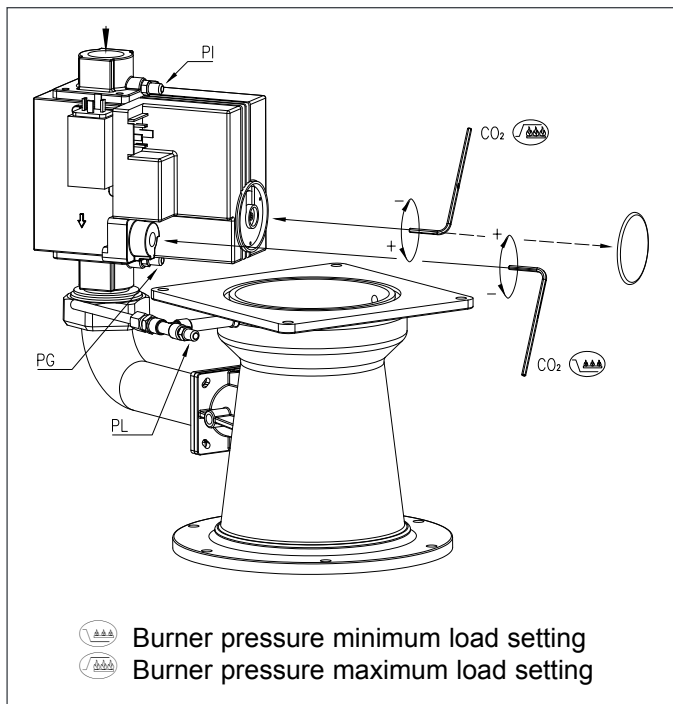
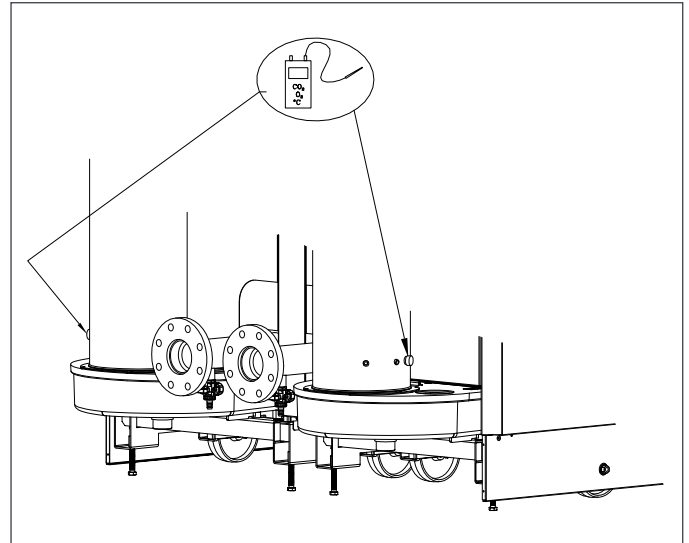

fig. 22 Gas valve multiblock adjustment points
fig. 23 Flue gas measuring point
11. Check the inlet gas pressure PI (see fig. 22).
- 17.a Check and correct, if necessary, the boiler module for correct gas/air ratio set-up. Checking takes place on full and part load, adjustment takes place only on the gas valve multiblock. For checking and adjusting are required: an electronic CO2-gauge (on the basis of O2) and a gas pressure gauge. Note that the opening (see fig. 23) around the measuring probe is sealed properly during measurement. Note also that measuring the O2 levels in the flue gas is necessary, because direct measurement of CO2 can lead to inaccuracies due to varying CO2 levels in the natural gas. Connect the gas pressure meter between measuring point PG on the underside of the gas valve multiblock and measuring point PL on the venturi (see fig. 22), ensuring the connections are gas tight.
- 17.d Check CO2-percentage (O2-percentage) against *table 11*. If the values exceed the given tolerances, adjust according to *fig. 22*. Check the flame through the inspection glass, the flame must not blow off.
- 17.g Check CO2-percentage (O2-percentage) against *table 11*. If the values exceed the given tolerances, adjust according to *fig. 22*. Check the flame through the inspection glass, the flame must not blow off.